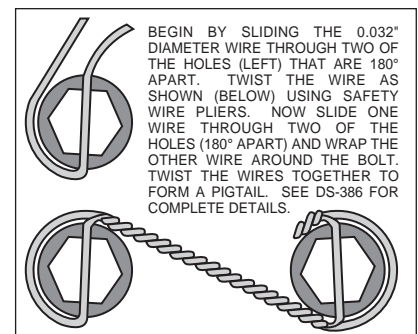

Figure 4. Safety Wire Diagram
- Install the grease seal (6) by pressing into the backside of the hub (4).
- Pack the small outer bearing cone (12) with high temperature disc brake bearing grease and install into front side of the hub (4). Slide the hub assembly (4, 5, 6 and 12) onto the spindle. Secure using spindle washer (13), stock adjusting nut, and nut locking device. Adjust wheel bearing pre-load per Original Equipment Manufacturer (OEM) specifications.
- Install the O-ring (14) and the dust cap (15) into the hub (4). **NOTE:** O-ring (14) friction will not allow cap (15) to unscrew on its own.
- With the larger I.D. side of the rotor (7) facing away from the hat (8), bolt rotor (7) to hat (8) through the backside of the rotor using washers (9) and bolts (10). Torque bolts (10) in an alternating sequence to 85 **in-lb**. Safety wire bolts (10) using standard 0.032 inch diameter stainless steel safety wire as shown in Figure 4. Please refer to Wilwood's data sheet DS-386 (available at [www.wilwood.com/pdf/ds386.pdf](http://www.wilwood.com/pdf/ds386.pdf)) for complete safety wire installation instructions.
- Slide the rotor/hat assembly over the studs (3) in the hub (4) taking care to align the small countersunk holes in the hat (8) with the small threaded holes in the hub (4). Install three flat head socket head screws (11) through the small holes in the hat (8) and torque to 85 **in-lb**. Check to be sure the hat seats squarely against the hub face.
- NOTE:** Please reference the caution statement at the beginning of the assembly instructions. The caliper mount brackets (16) should be installed first with clean, dry threads on the mounting bolts (17). Place sleeve (19) into the holes on the radial mount caliper bracket (16). Install the radial mount caliper bracket (16) on the backside on the flat caliper bracket (1) by sliding bolt (17) through washer (18) and through the bracket holes. Place spacer (20) and shim washer (21) between the two brackets and screw bolt (17) into insert nut on the flat caliper bracket (1). Finger tighten bolt (17). Use one thin shim (21) between the two brackets (1 and 16) during initial trial fitting.
- Lubricate caliper mounting studs (23) and nuts (27) with lightweight oil. Slide spacer (24) over caliper bracket mounting studs (23), then install two shim washers (25) over each pre-installed stud (23) on the radial mount bracket (16). Slide the caliper (22) in place over the studs and rotor, then install the washer (26) and lock nut (27) to hold the caliper in place. The caliper bleed screws should be pointing up.
- View the rotor (7) through the top opening of the caliper (22). The rotor (7) should be aligned in the center of the caliper (22). If not, adjust the radial mount caliper bracket (16) by using shims (21 and/or 29) placed between the two brackets (1 and 16). Add as many shim washers (21 and/or 29) as necessary to achieve the correct alignment. Always use the same amount of shims on both the top and bottom radial mount caliper mounting bolts (17). Finger tighten and recheck alignment, adjust as necessary. Apply red *Loctite*® 271 to bolt threads (17) and torque to 47 ft-lb.
- Remove the caliper center bridge pad retainer bolt, nut, and tube from the caliper. Slide the brake pads (28) into place. They should install easily without interference. Check that the outside radius of the brake pad is flush with the outside diameter of the rotor face. Add or subtract shims (25) between the caliper and mount bracket to gain the proper alignment. Reinstall the caliper and torque the caliper nuts (27) to 30-35 ft-lb. Reinstall the center bridge pad retainer tube, bolt, and locknut. The locknut should be snug without play in the bolt or tube. Be cautious not to over tighten.